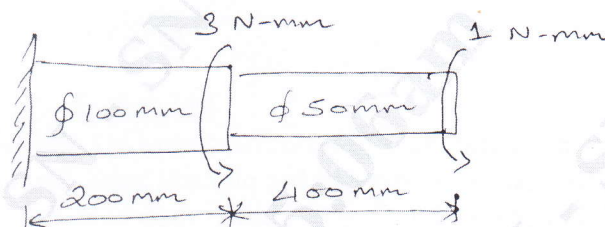

Fig.Q6(b)
b. A solid stepped bar of circular cross section shown in Fig.Q6(b) is subjected to a torque of 1N-mm at its free end and a torque of 3N-mm at its change in cross section. Determine the angle of twist and shear stresses in the bar. Take $E = 2 \times 10^5 \text{ mm}^2$. And $G = 7 \times 10^4 \text{ N/mm}^2$.